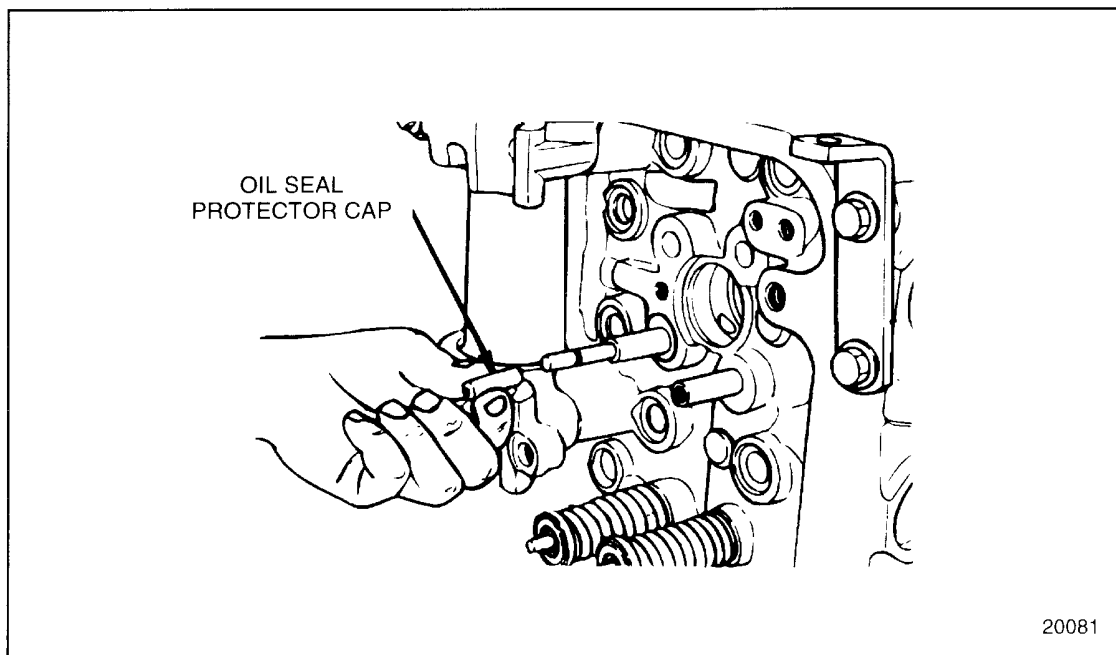

Figure 1-89 Oil Seal Protection Cap Installation
4. Install the cap over the valve stem. See Figure 1-89.